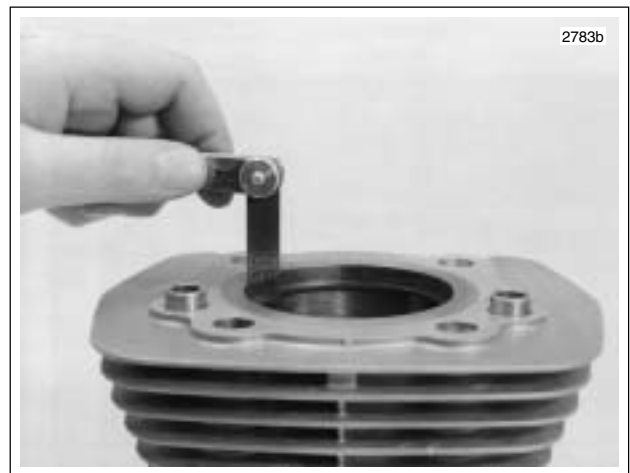

Figure 3-76. Measuring Ring End Gap
1. See Figure 3-76. Insert the **new** ring into the cylinder, square it in the bore using the top of the piston and measure the ring end gap with a feeler gauge. Do not use the ring if the end gap does not fall within the following specifications, See Table 3-27.